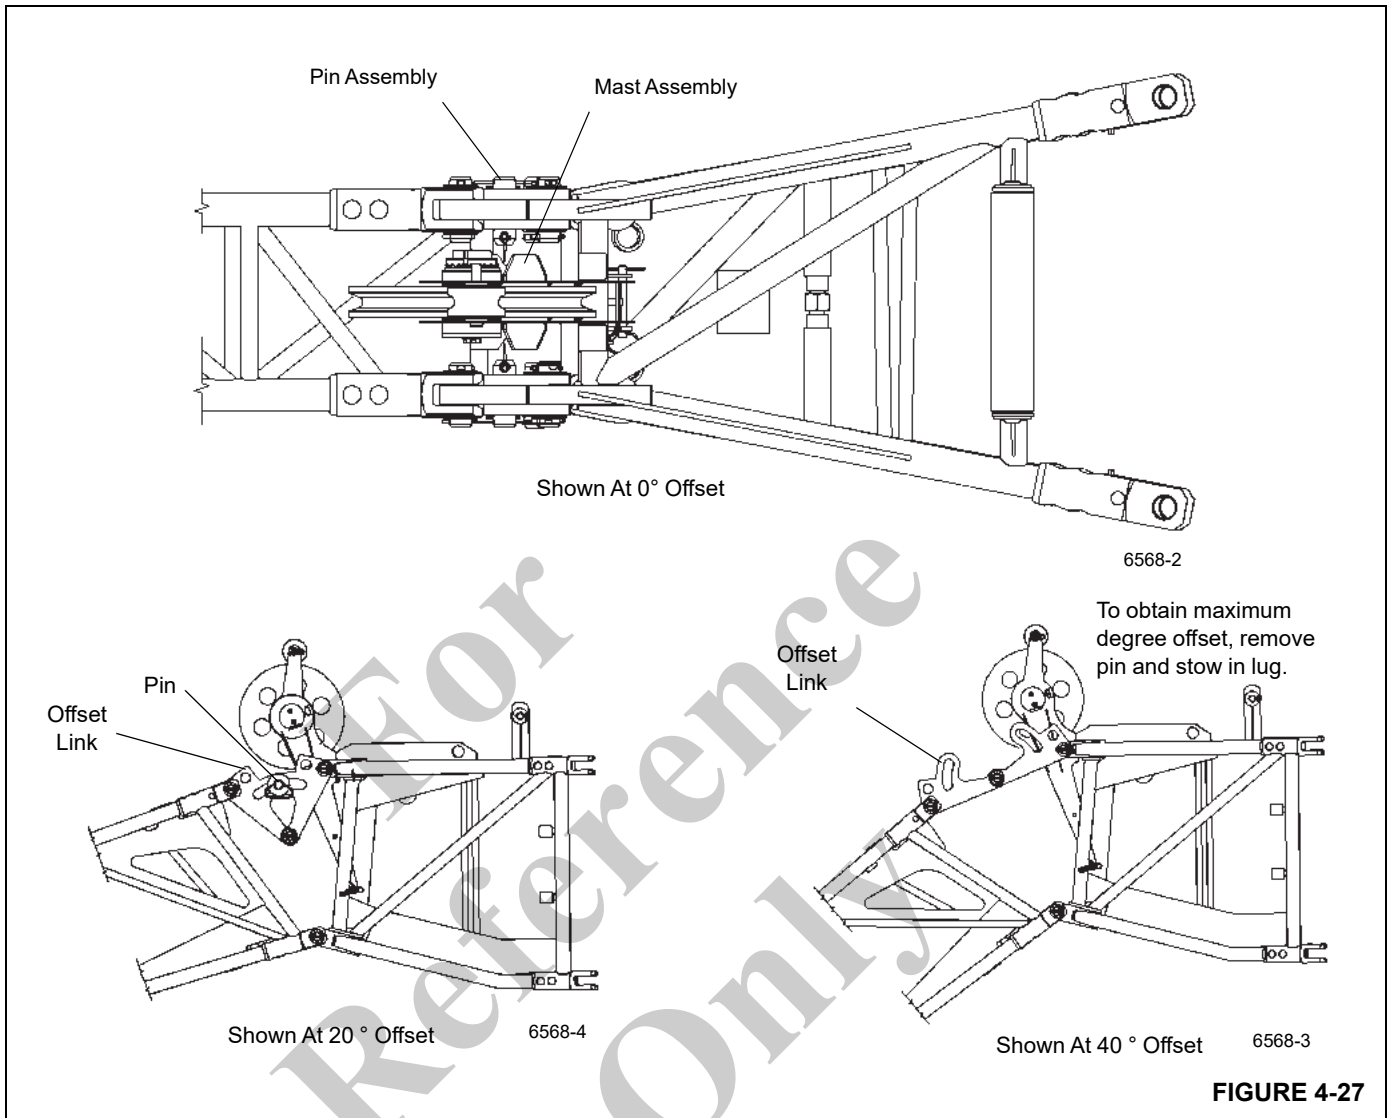

FIGURE 4-27
3. To set offset from a lesser to higher degree, perform the following procedures (Figure 4-27).